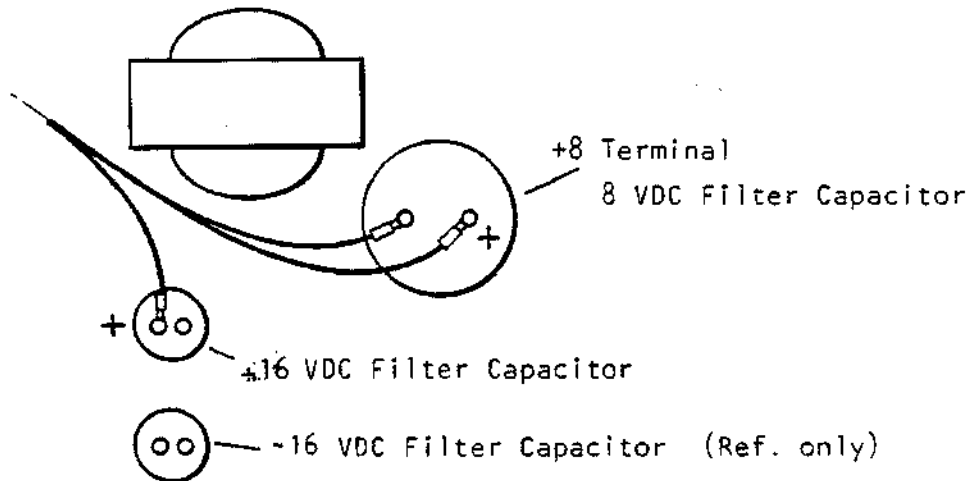

FIGURE 3
3. Connect the power terminal lug marked +8V to the +8V terminal on the large filter capacitor (see Figure 3). Verify all of the other terminal lugs are in place and tightened securely.
4. In a likewise manner connect the terminal lugs marked +16V and GND to their respective connection points as shown in Figure 3.